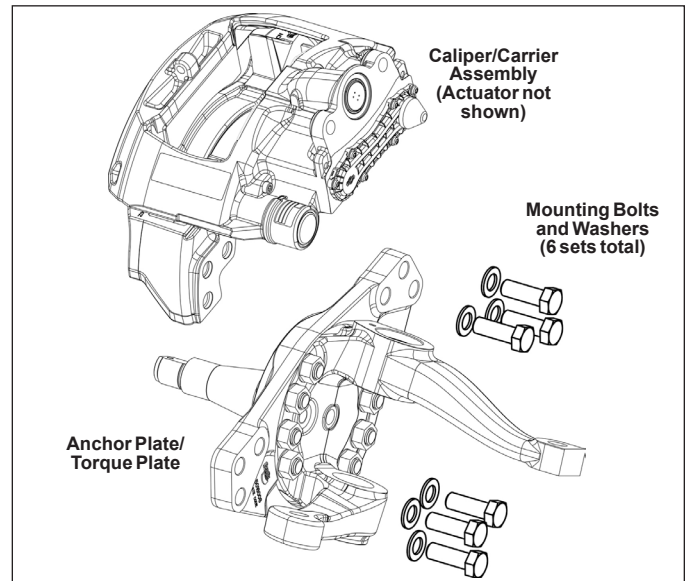

Figure 41 – Axial Mount Caliper/Carrier
4.3.6 Disconnect the air hose(s) to the brake chamber. See *Figure 41*. Supporting the air disc brake by necessary means, remove the six bolts attaching the brake to the anchor plate and remove the caliper/carrier assembly from the vehicle.